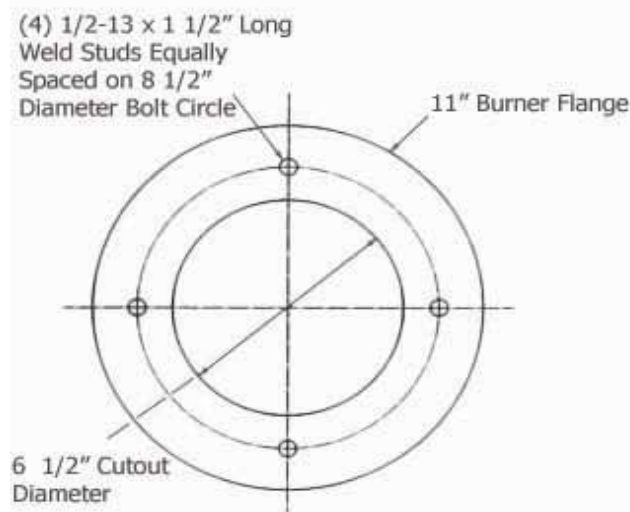

FIGURE 2-5. Mounting Dimensions 5-12
3. Refer to Figures 2-5, 2-6, and 2-7 for bolt circle and cutout dimensions.